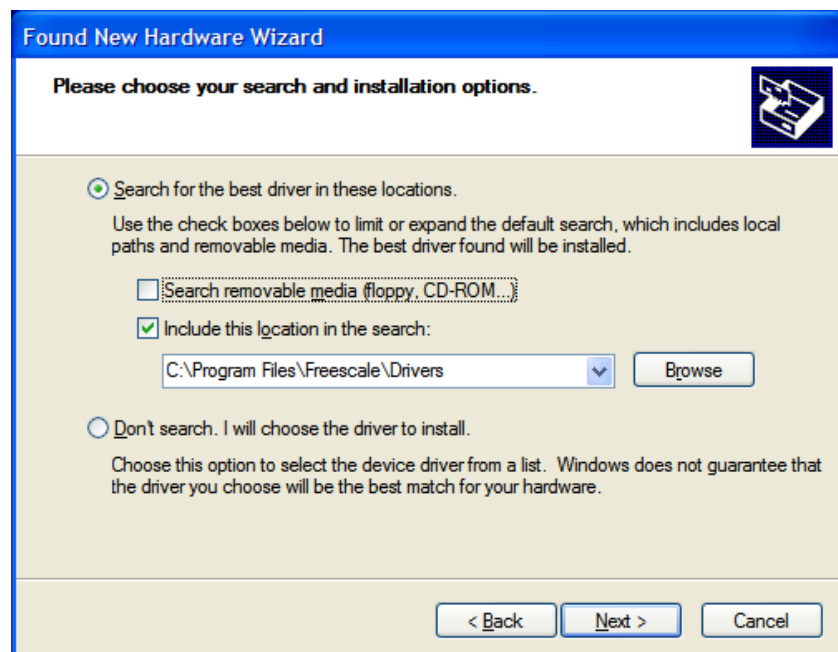

Figure 2-4. Found New Hardware Window (Search and Installation Options)
- As shown in Figure 2-4, specify the actual location of the driver files. (When installing Freescale Test Tool 12, by default, the drivers are installed to the following directory: